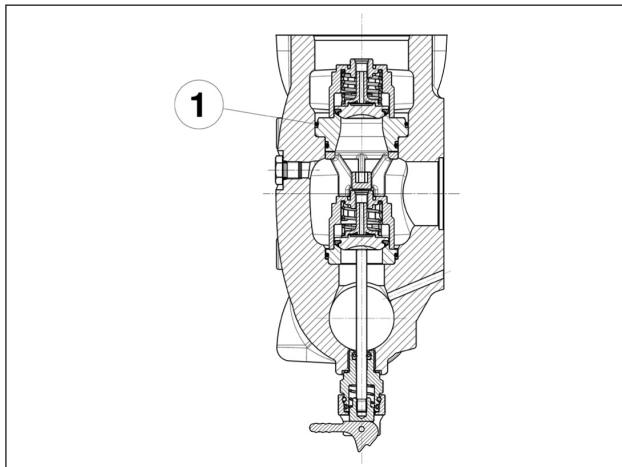

Fig. 128
**Pay special attention to fitting the O-ring shown in pos. ①, Fig. 128.